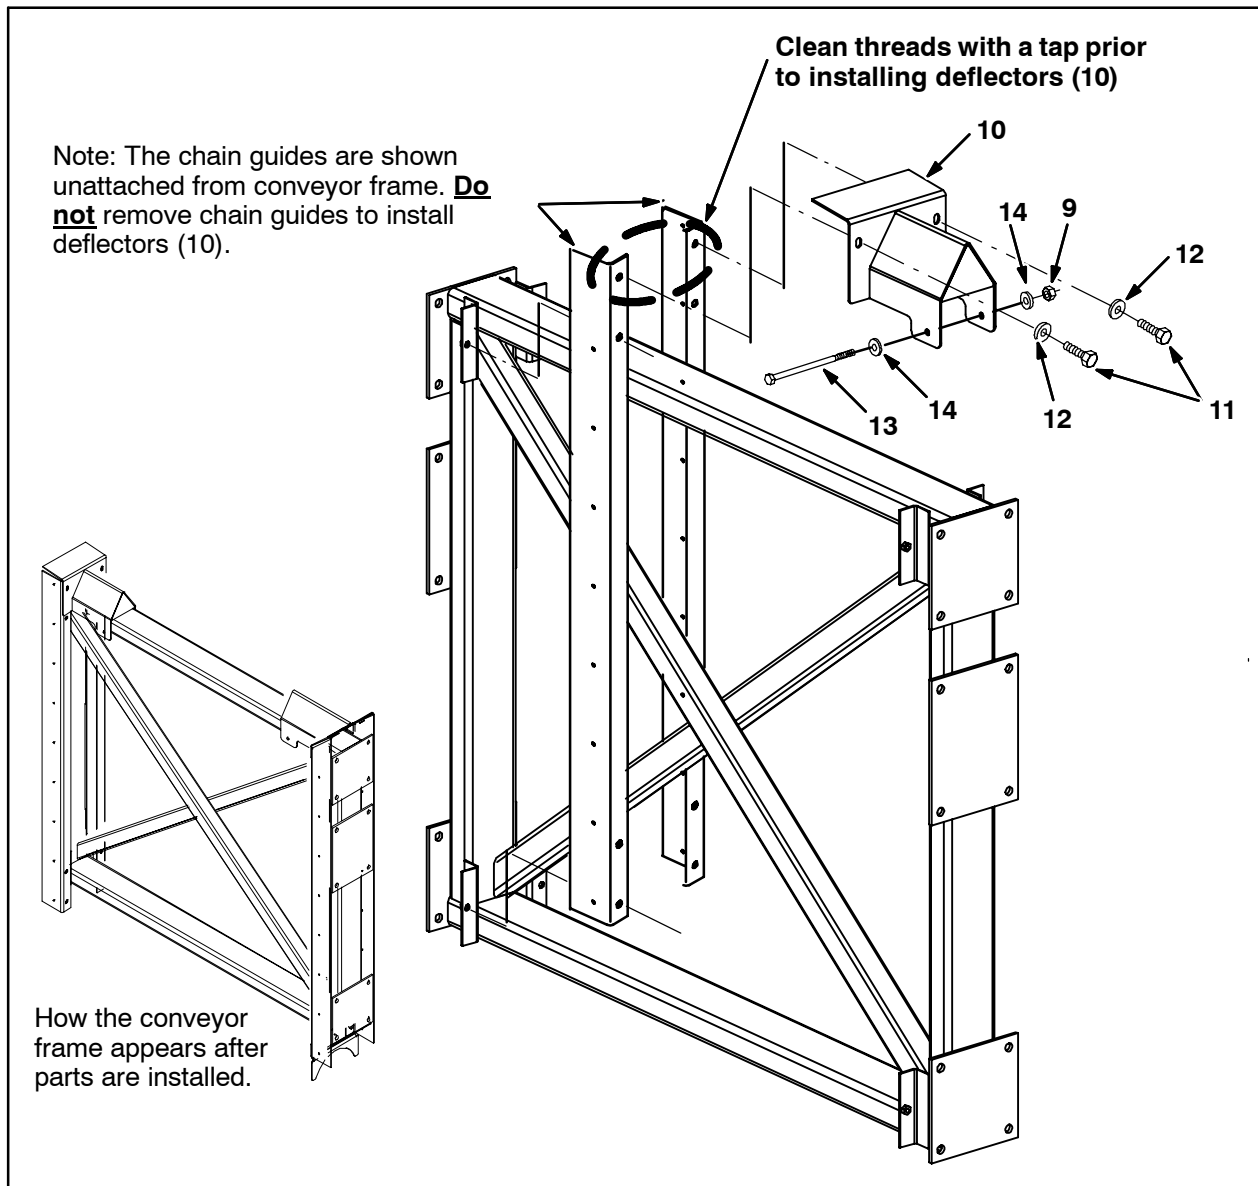

FIG. 6
NOTE: Use a tap to clean the M8 X 1.25 holes in the four chain guides prior to installing the deflectors (10). Refer to Fig. 6 for locations of holes on the chain guides.
12. Place both deflectors (10) onto the areas of the top cross member of the conveyor frame cleaned in the previous step. Refer to Fig 6.
13. Use two hex screws (11) and two washers (12) to connect the deflectors (10) to the chain guides. Refer to Fig 6.
14. Slide one washer (14) onto each hex screw (13) and insert a hex screw into one side of the each deflector (10), underneath the top cross member of the conveyor frame, and out through the other side of the deflector. Refer to Fig 6.
15. Slide another washer (14) onto each hex screw (13) and tighten a lock nut (9) onto each hex screw. Do not over tighten the lock nuts onto the hex screws. Refer to Fig 6.